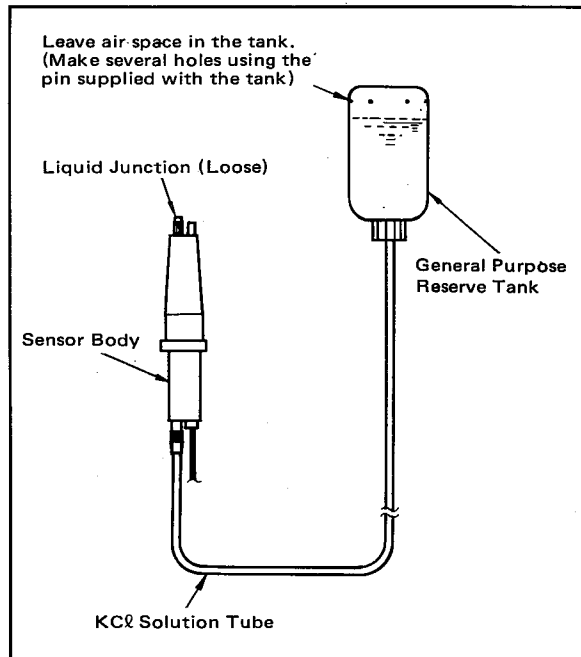

Figure 2-2. Supplying KCl Solution to Sensor Body.
- (1) Connect the sensor cable to the associated equipment. Correctly connect the sensor cable as per Section 2-3.
- (2) Mount the liquid junction in the sensor body. Peel off the seal attached to the liquid junction mounting hole in the sensor body. Screw the liquid junction gently two or three turns into the hole.
- (3) If specified, a reserve tank containing 250 ml KCl solution and mounting hardware to hold this tank are supplied with the PH8EFG pH sensor. Attach the holding hardware to the pipe (nominal diameter 50 mm). Connect the reserve tank to the KCl solution supply tube of the sensor. Remove the cap from the tank and screw the tube connector securely into the tank.
- (4) Supply KCl solution to the sensor (see Figure 2-2). First, mount the reserve tank on the mounting hardware with the tube connection part directed downwards. Using the pin supplied with the tank, make several holes in its top (see Figure 2-2). Stand the sensor upside down at a lower position than the reserve tank as shown in Figure 2-2 so that KCl solution flows from the tank into the sensor. When the KCl solution fills the sensor and overflows from the liquid junction mounting hole, securely screw the liquid junction into the mounting hole.
- (4) If specified, a reserve tank containing 250ml KCl solution and mounting hardware to hold this tank are supplied with the PH8EFG pH sensor. Attach the mounting hardware to the pipe (nominal diameter 50 mm). Connect the reserve tank to the KCl solution supply tube of the sensor. Remove the cap from the tank and screw the tube connector securely into the tank.
- (5) Supply KCl solution to the sensor. First, mount the reserve tank on the mounting hardware with the tube connection part directed downwards. Using the pin supplied with the tank, make several holes in its top (see Figure 2-2). Stand the sensor upside down at a position lower than the reserve tank as shown in Figure 2-2 so that KCl solution flows from the tank into the sensor. When the KCl solution fills the sensor and overflows from the liquid junction mounting hole, securely screw the liquid junction into the mounting hole.
- (4) Supply KCl solution to the sensor. When a general purpose reserve tank is used. First, mount the reserve tank on the holding hardware with the tube connection part directed downwards. Using the pin supplied with the tank, make several holes in its top (see Figure 2-2). Stand the sensor upside down at a position lower than the reserve tank as shown in Figure 2-2 so that KCl solution flows from the tank into the sensor. When the KCl solution fills the sensor and overflows from the liquid junction mounting hole, securely screw the liquid junction into the mounting hole. When a reserve tank for medium pressure is used. First, fill the reserve tank with KCl solution*. Loosen the nut on the reserve tank upside and remove the cap – the pressure gauge is mounted – and pour about 250 ml of KCl solution into the tank. Stand the sensor upside down at a position lower than the reserve tank as shown in Figure 2-2 so that solution flows from the tank into the sensor. When the KCl solution fills the sensor and overflows from the liquid junction mounting hole, securely screw the liquid junction into the mounting hole. Remount the cap of the reserve tank. Tighten the nut securely.